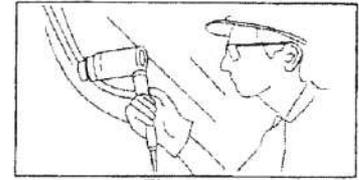

Figure 8
1. When the wheel is on the vehicle, use the bead breaker to Break the back tire bead, following the same procedure used on the front tire bead. If the wheel is on the vehicle, you may need to use a smaller ram, between the frame of the vehicle and the back flange(See Figure 8). Repeat the steps in "USING THE FPL1800 Bead Breaker" on pages 2 and 3.